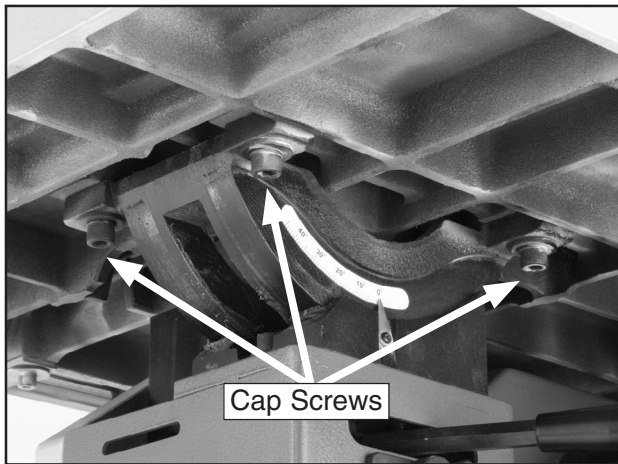

Figure 29. Cap screws securing table to trunnion.
3. Loosen the four trunnion cap screws that secure the table to the trunnions (**Figure 29**).